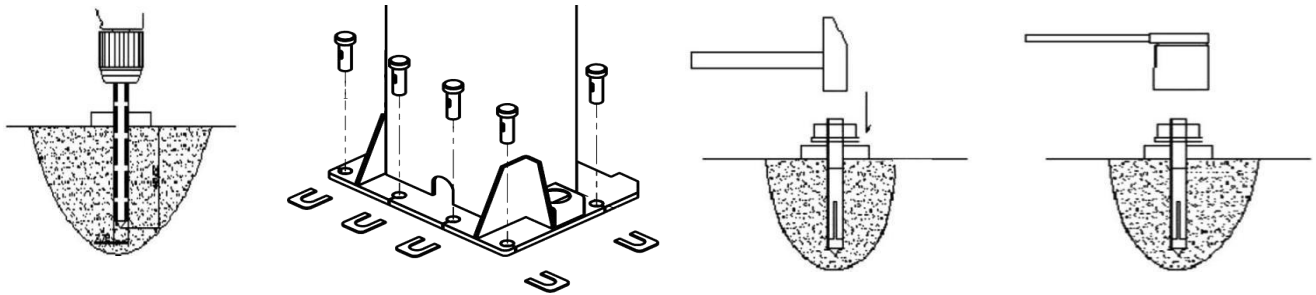

Fig 21 Anchor Bolts Installation Diagram
2.2.11 Install Anchor Bolts (Fig 21)